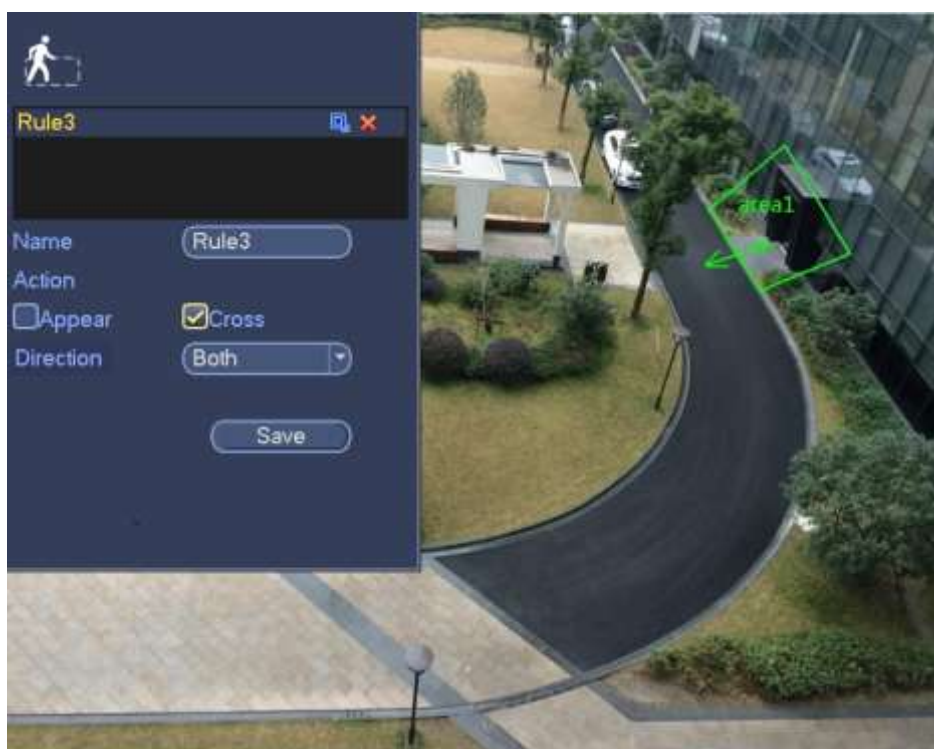

Figure 4-150
1. Click draw button  to draw the zone. See Figure 4-150.